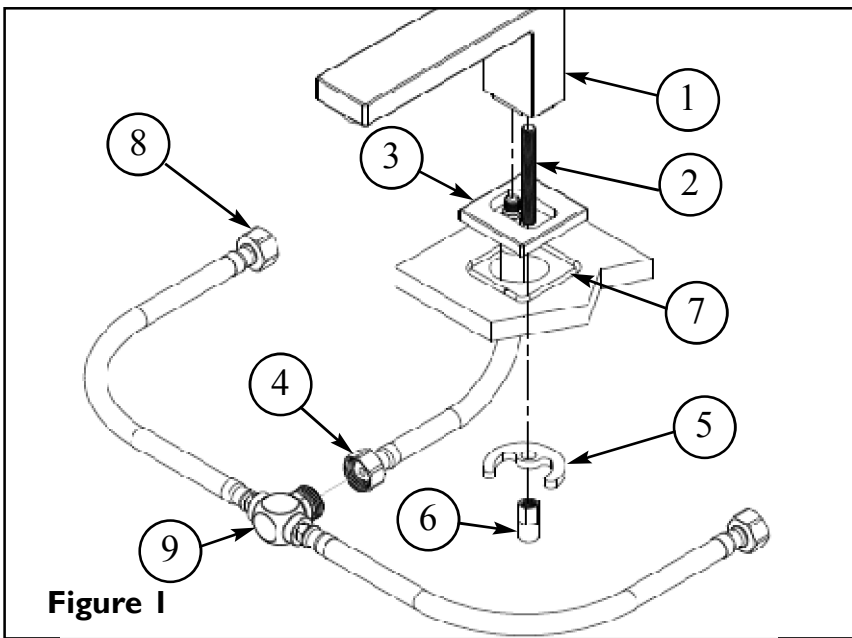

Figure 1
1. Insert SHANK (2) and HOSE (4), through base ESCUTCHEON (3), O-RING (7) and sink hole. From underside of sink mounting CRESENT (5) and mounting NUT (6) onto spout SHANK (2). Align SPOUT (1) and secure into place by tightening mounting NUT (6). **See Figure 1.**